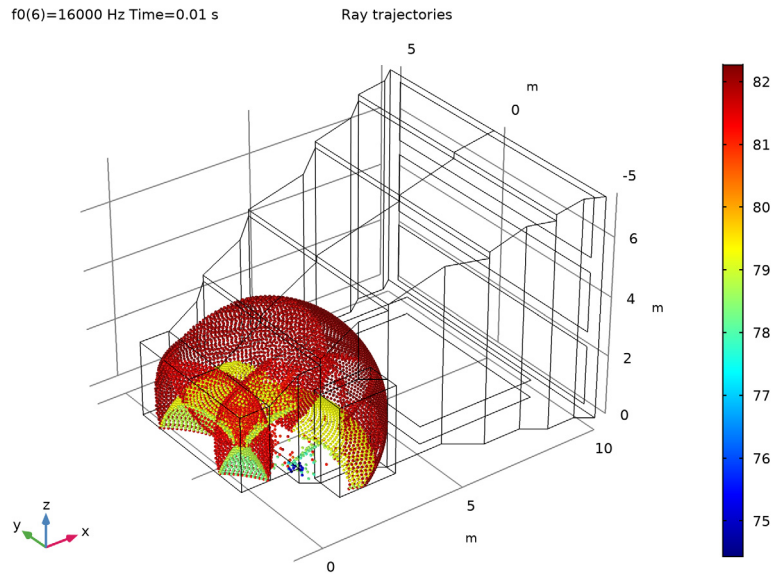
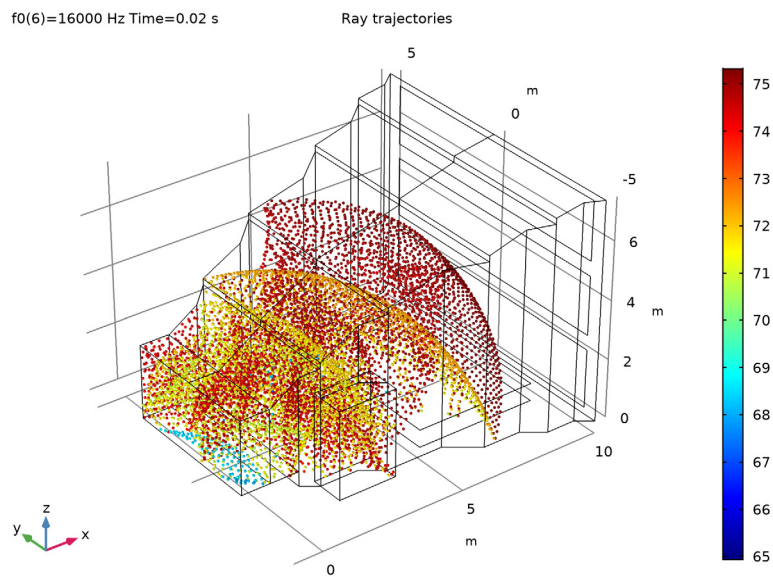

Figure 2: Ray location and SPL after 10 ms.
Figure 3: Ray location and field SPL after 20 ms.
The local wavefront sound pressure level (SPL) is depicted in Figure 2 after 10 ms and in Figure 3 after 20 ms propagation. When the compute intensity option is selected in the Ray Acoustics interface, wavefront curvature, intensity, and SPL is calculated along each ray. They allow visualization of the local acoustic properties. However, it is the acoustic power transported by each ray that is important when calculating the impulse response (IR) and when visualizing the sound pressure level at surfaces. This means that the compute power option should always be selected for IR computation but the compute intensity can be turned off. Only selecting **Compute power** will also make the model run slightly faster and reduce the number of degrees of freedom (DOFs) solved for.